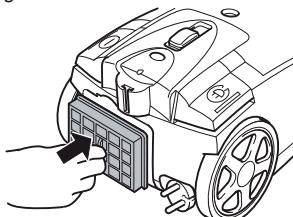

Fig. 29
8. Put the new / cleaned and completely dry exhaust filter back into its receptacle (Fig. 29).